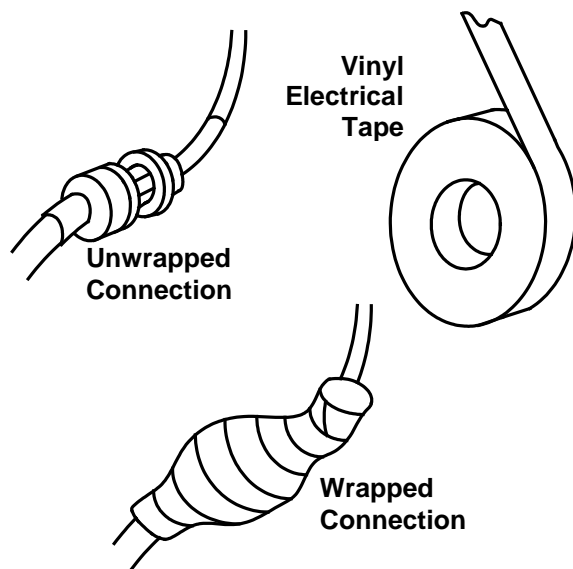

Figure 3: Wrapping the Connection with Vinyl Electrical Tape
1. Using the supplied vinyl electrical tape, wrap the connection between the antenna unit and the antenna cable (Figure 3). Make sure to extend the layer of tape beyond the cable seams at both ends.